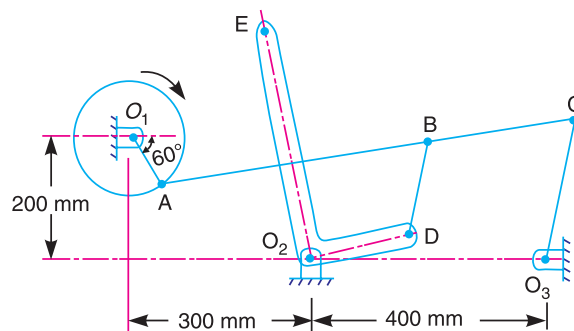

Fig. 8.18
**Example 8.9.** The mechanism of a warping machine, as shown in Fig. 8.18, has the dimensions as follows: